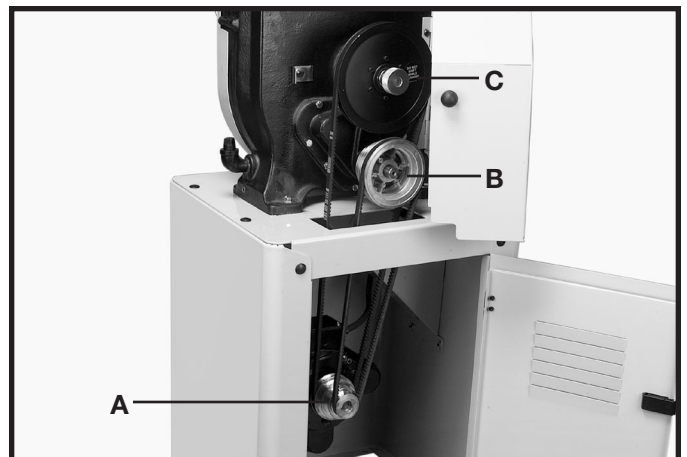

Fig. 25
3. Place the longer V-Belt on the inside groove of the motor (A) and the drive pulley (C) Fig. 25. Place the shorter V-Belt on any one of the remaining three grooves on the motor pulley (A) and the corresponding groove on the gear box pulley (B). (Fig. 25 shows belts in place.)